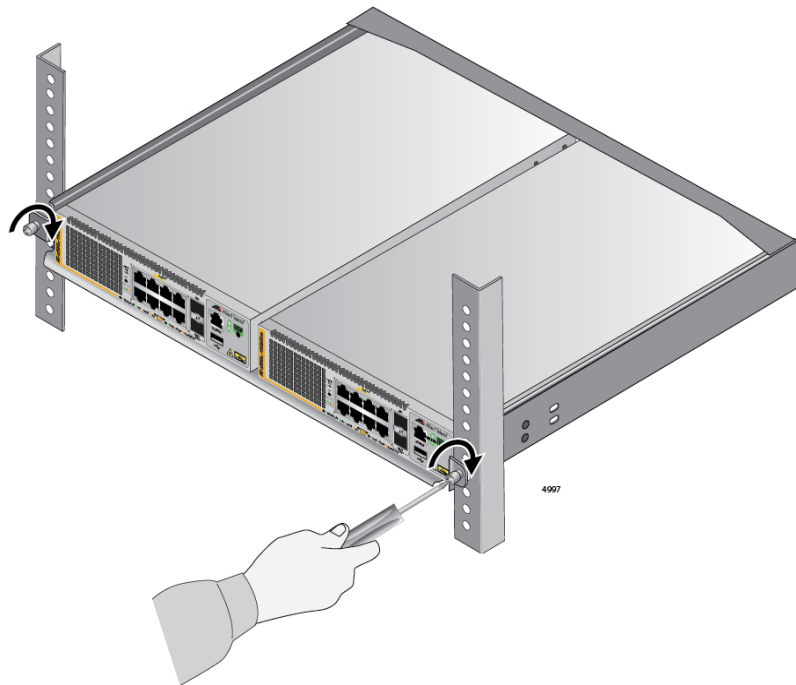

Figure 50. Tightening the Two Thumbscrews on the RKMT-J15 bracket.
11. Tighten the two thumbscrews to secure the bracket to the rack. Refer to Figure 50.